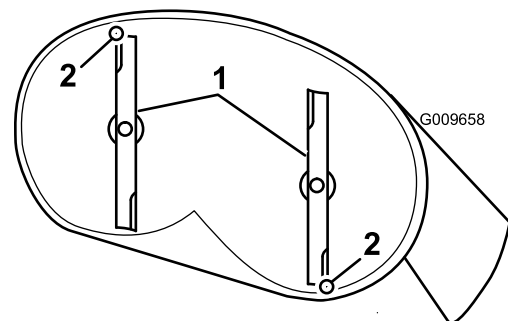
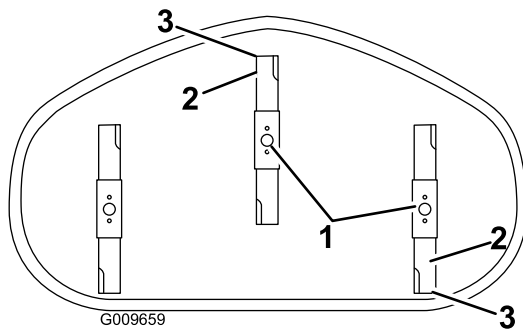

Figure 60
Figure 61
4. Carefully rotate the blades so they are facing front to rear (Figure 60 and Figure 61).
5. Measure from the tip of the front blade to the flat surface, and the tip of the rear blade to the flat surface (Figure 60 and Figure 61).
9. After adjustment, check the front-to-rear slope again, continue adjusting the nut until the front blade tip is 1.6 to 7.9 mm (1/16 to 5/16 inch) lower than the rear blade tip (Figure 60 and Figure 61).